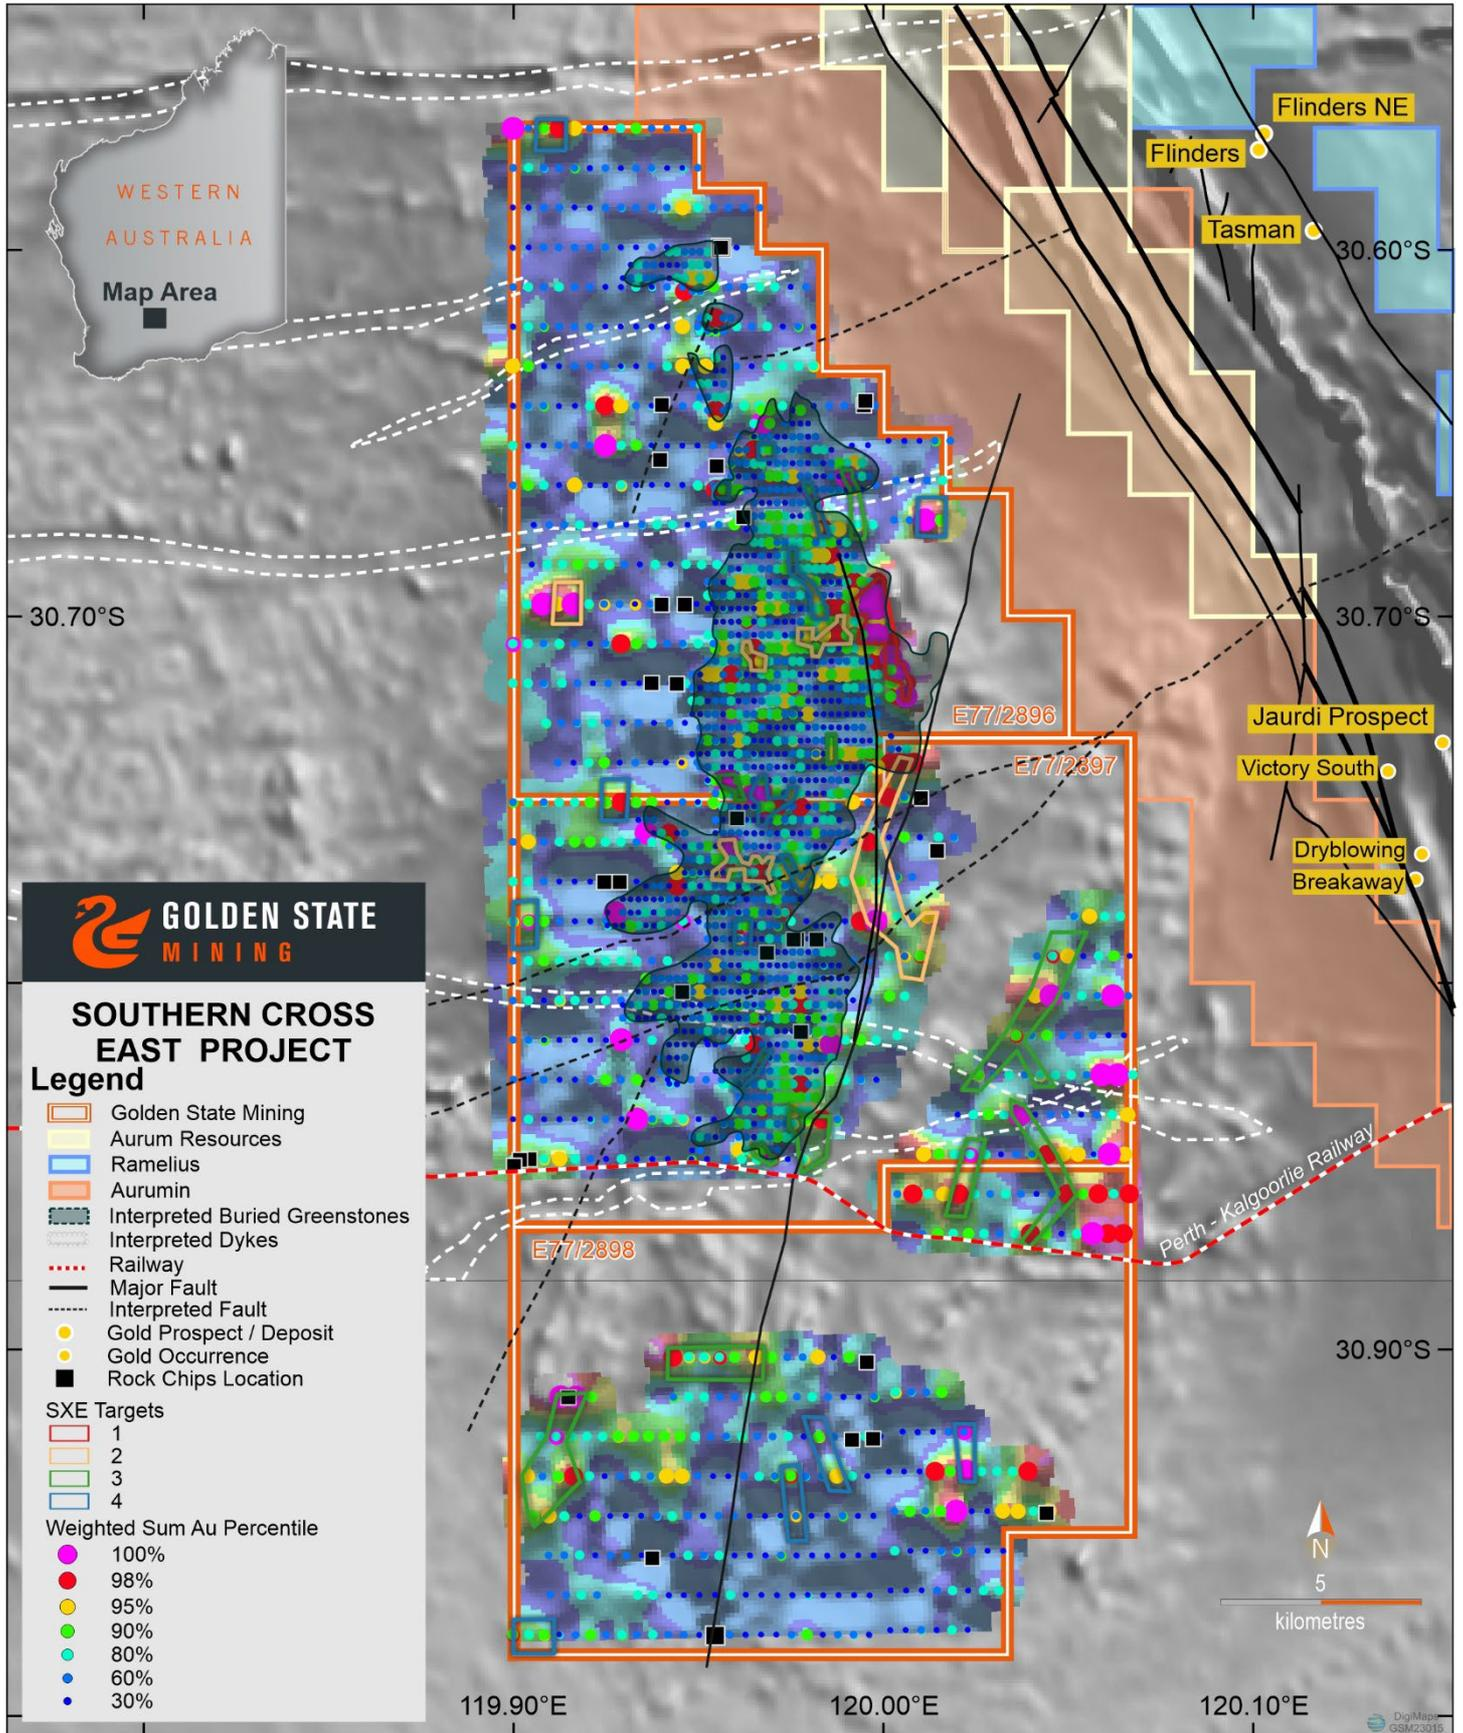

Figure 5: Southern Cross East Project Plan showing phase 1 geochemical sample locations and results
The Company has received and interpreted ultrafine soil assay results from first phase regional geochemical sampling at its Southern Cross East project (refer to ASX announcement dated 13 January 2023). 1904 soil samples were collected by independent contractors for analysis of the ultrafine fraction (<2µm) (Figure 5) on 400m centres along 800m spaced, east-west orientated lines with closer 200m x 400m spacing over higher magnetic signatures interpreted as buried greenstone. The sampling was located over areas interpreted to encompass relatively shallow regolith cover considered amenable to this sampling methodology and best suited to deliver any potential basement response.
The resultant >90th percentile sample population has identified 32 initial areas of interest which have been ranked in order of priority for follow up work (Figure 5). Two higher priority areas in proximity to structural trends show anomalous low-level gold (Au) values supported by other pathfinder elements including silver (Ag), arsenic (As), copper (Cu), nickel (Ni), antimony (Sb) & tungsten (W) are considered particularly significant. The coherent